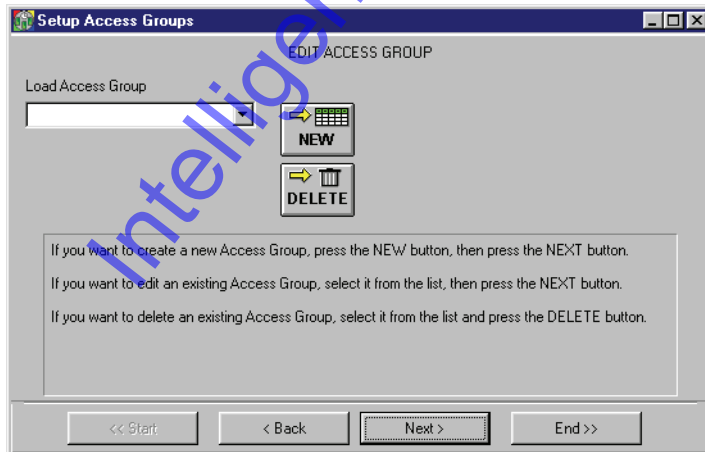

Figure 3-40: Edit Access Group
2. Click on the  button and the Edit Access Group window appears (see Figure 3-40).